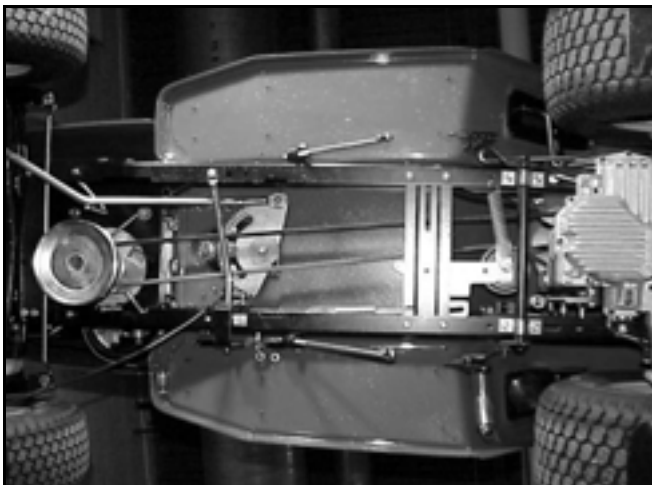

Figure 119
13. Before installing the mower deck on the tractor, check the routing of the drive belt (Figure 119).